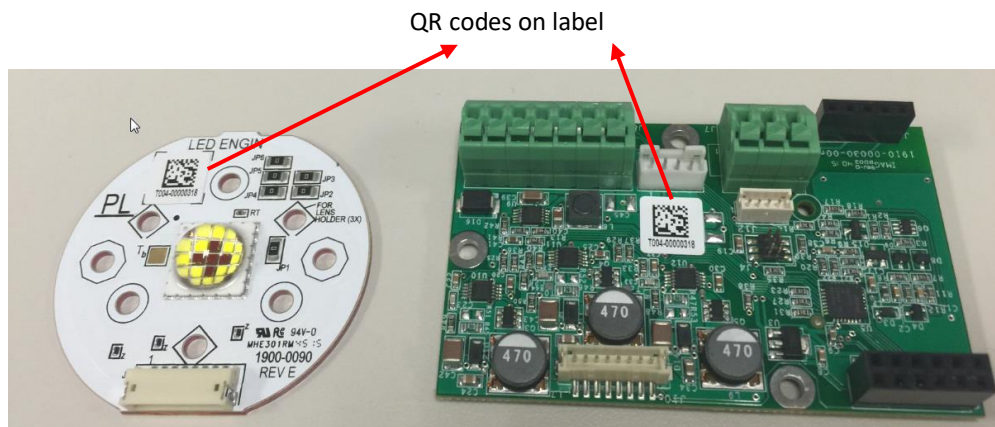

Fig 32. LuxiTune QR codes on matched pair
- Traceability is enabled by a QR code for tracking matching parts. The unique code consists of the following characters, which can be either letters or numbers. See example below in Fig 32.